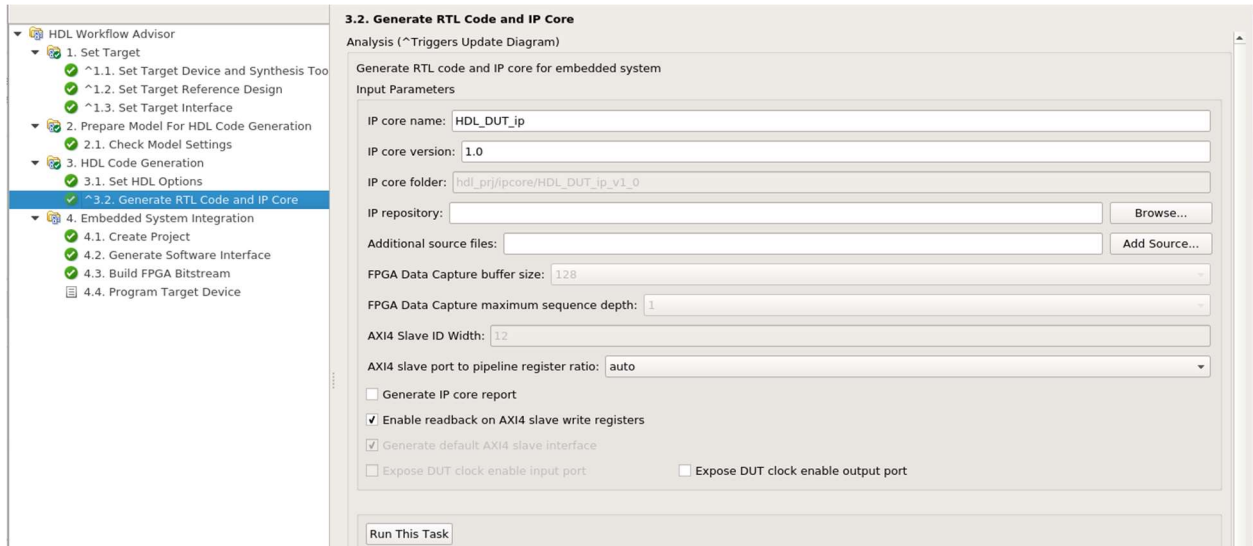

Figure 14. Generate RTL code and IP Core
2.2 Check the Enable readback on AXI4 slave write registers as described in Figure 14.